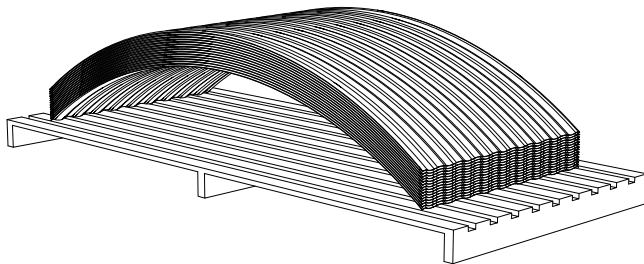

Fig 2 - Wall sheets elevated and hump up
- Store curved wall sheets “hump up”. See Figure 2.